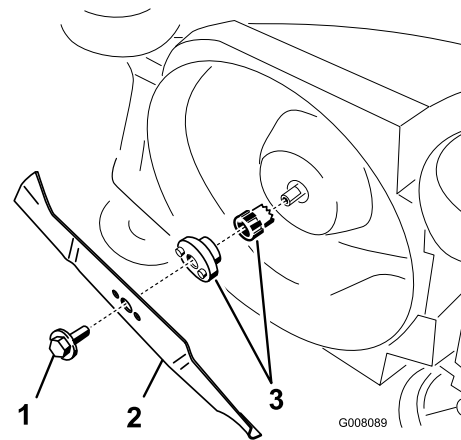

Figure 24
1. Grasp the end of the blade (Figure 24) with a rag or thickly padded glove.